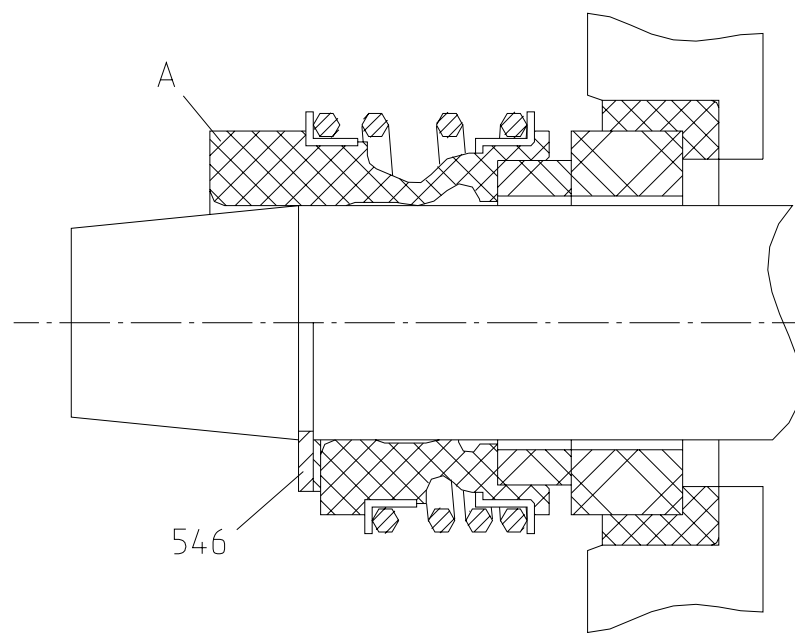

Fig. 17
c) Rubber-bellows seal - type "G" (Fig. 17)